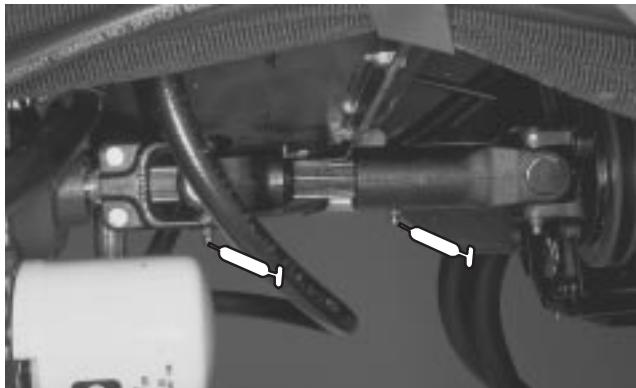
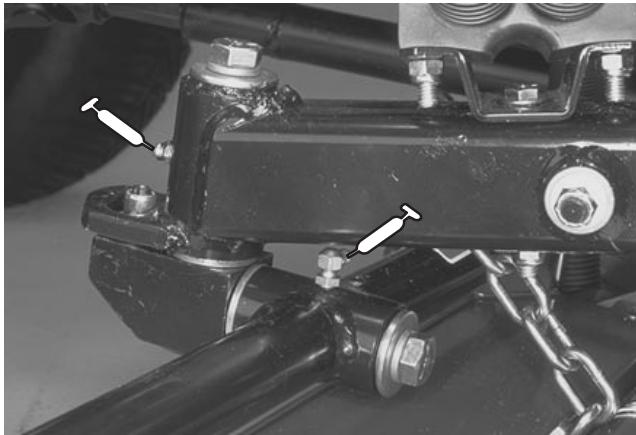
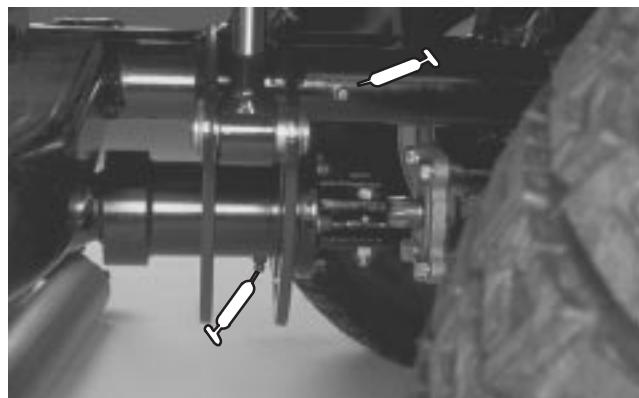
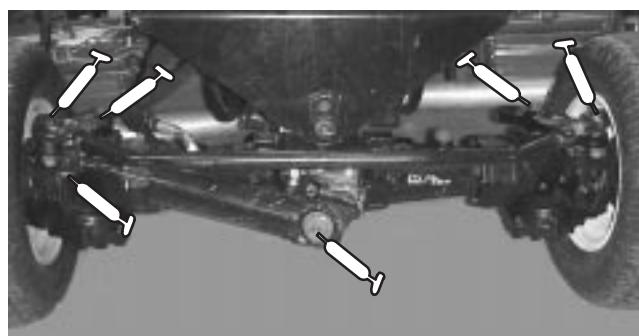

Figure 37
Figure 38
Figure 39
Figure 40
(Fig. 37 – 44)
1. The grease fitting locations and quantities are: Engine Drive shaft (3), (Fig. 37); Cutting unit carrier frame and pivot (2 ea.), (Fig. 38); Lift arm pivots (5), Drive shaft clutch (1) (Fig. 39); Rear axle tie rod (2), Steering cylinder ball joints (2), Axle steering pivots (2) Rear axle pivot (1) (Fig. 40); Traction control linkage at transmission (1), Drive shaft support bearing (1), Rear axle drive shaft (3) (Fig. 41); Brake pedal (1) (Fig. 42); Lift cylinders (5) (Fig. 43) and Fan shaft (Fig. 44).